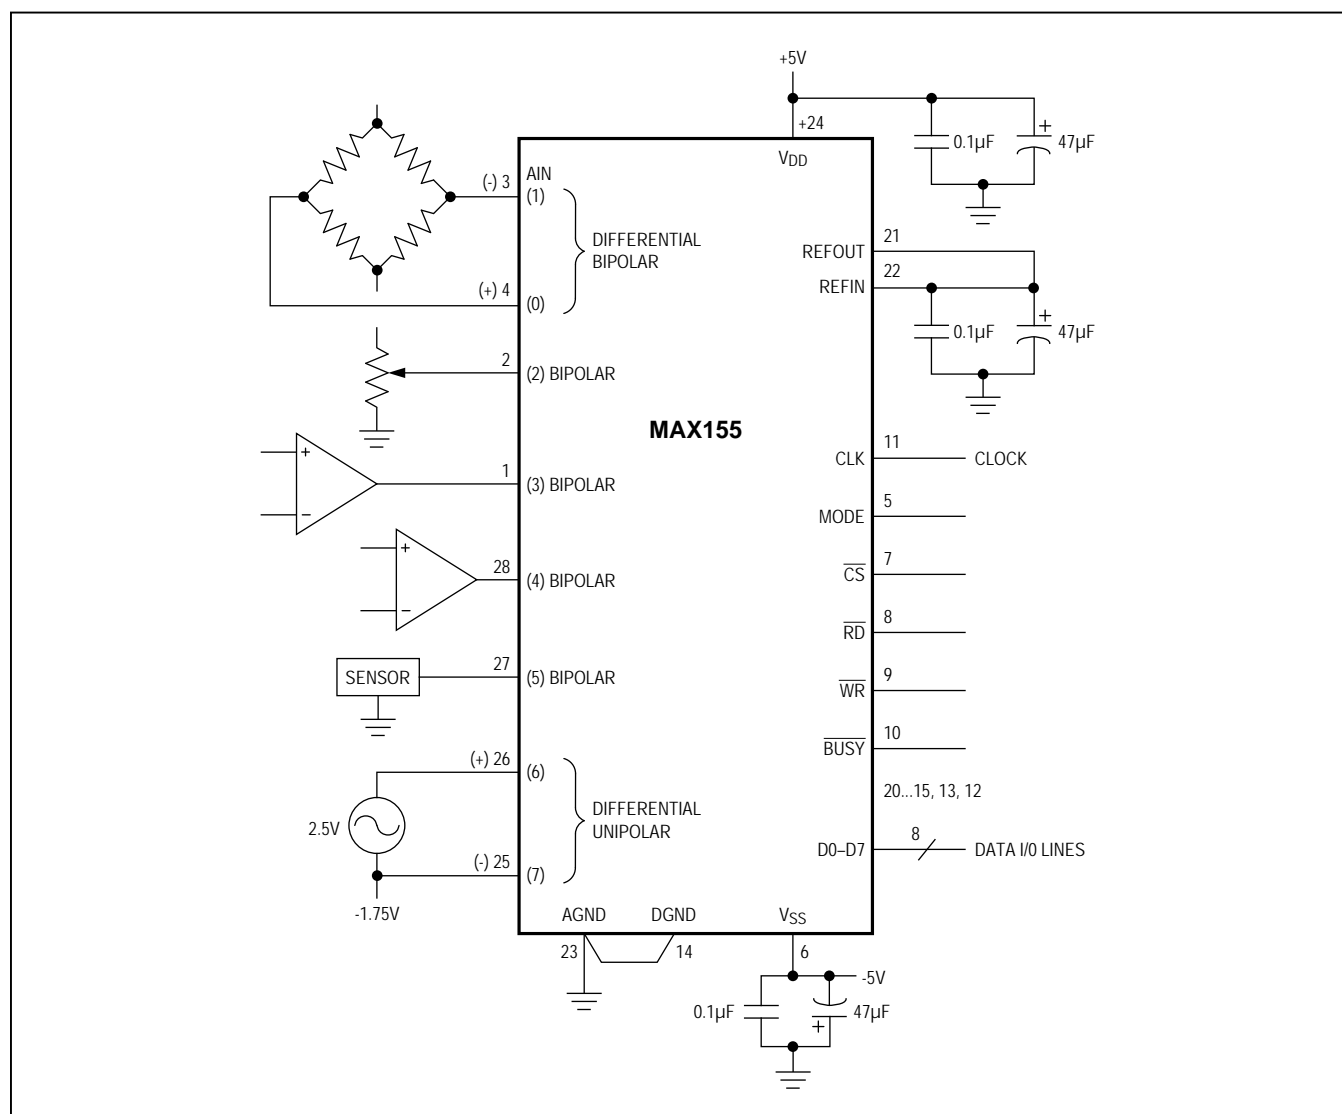

Figure 10. MAX155/MAX156 Typical Operating Circuit
where N is the number of channels converted. This includes one clock cycle of uncertainty. For a single channel and 5MHz clock, the conversion time is  $(9 \times 1 \times 2) / 5\text{MHz} = 3.6\mu\text{s}$ . For the MAX155, the maximum conversion time for 8 channels is  $(9 \times 8 \times 2) / 5\text{MHz} = 28.8\mu\text{s}$ . In the application example (Figure 10), six conversions are configured, and the conversion time is  $(9 \times 6 \times 2) / 5\text{MHz} = 21.6\mu\text{s}$ .
The MAX155/MAX156 address and configuration inputs for this example were determined by selecting the desired channel configurations in Tables 2 and 3. Figure 10 illustrates the configuration outlined in Table 5.
- 3) Data is read from RAM with  $INH = L$  and consecutive  $\overline{RD}$  strobes. Note that in the 6 channel configurations described in this example (Figure 10), 6  $\overline{RD}$  pulses access all available data, start with the differential channel (1, 0). Additional  $\overline{RD}$  pulses loop around, accessing the lowest channel data again.